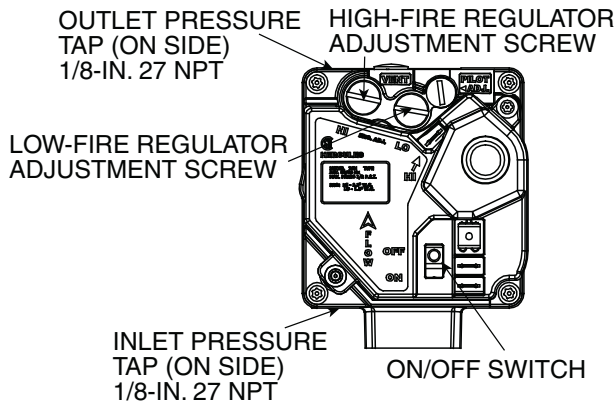

Fig. 56 — Gas Valve (Part Number EF33CW271)
6. Remove screw cap covering regulator adjustment screw (See Fig. 56).